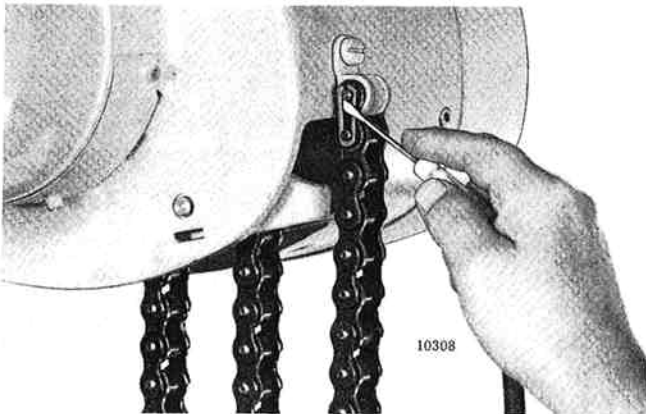

Figure 7-1. Removing Spring Clip from Connecting Link at Tail End of Load Chain (Roller Chain Models).
(1) On models with single-reeved load chains (1/4 thru 1 ton rated loads) disconnect tail end of load chain from anchor at side of frame. Remove spring clip and connecting link attaching chain to anchor on roller chain models (fig. 7-1). Remove fillister head screw holding end link to frame on link chain models. Remove grooved pin from the limit actuator and pull it off end of chain. With hoist connected to power supply, run chain out of hoist by operating in "lowering" direction. (See note following paragraph (2) below and note in Sec. V, par. 5-2. a. (3) for inserting short length of chain.)